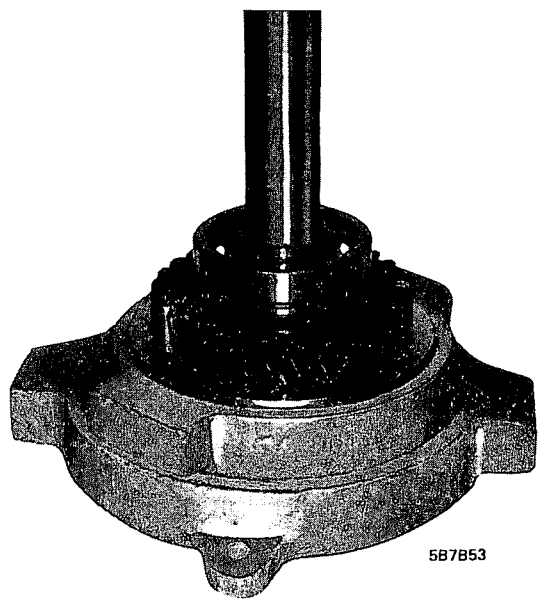

Figure 7B-53 - Removing Rear Bearing and 1st Speed Gear
5. Remove the first and second synchronizer snap ring from the mainshaft and remove the clutch assembly, 2nd speed blocker ring and second speed gear from the rear of the mainshaft. See Figure 7B-54.